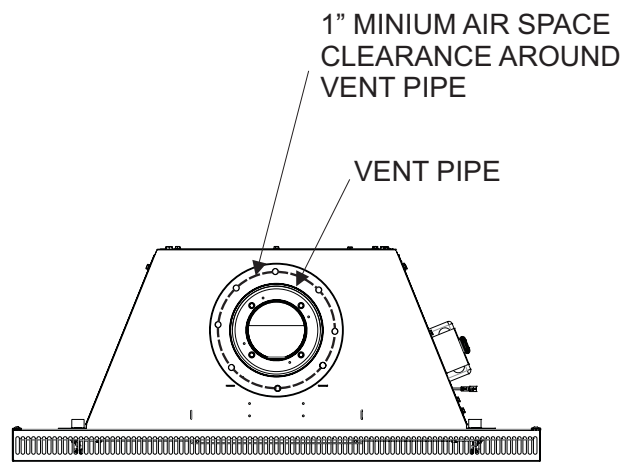
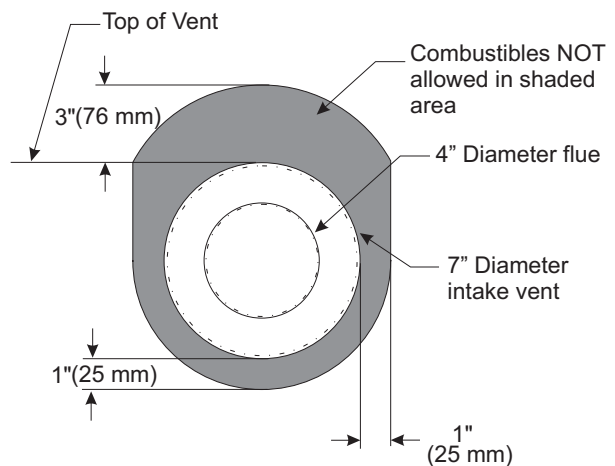

Figure 11
Figure 12
**Note:** Maintain one inch (1") of clearance around vertical vent pipe. See Figure 11. For horizontal vent, maintain a minimum 1" clearance to the bottom and sides of the vent, and 3" clearance to combustibles above the vent pipe. See Figure 12.